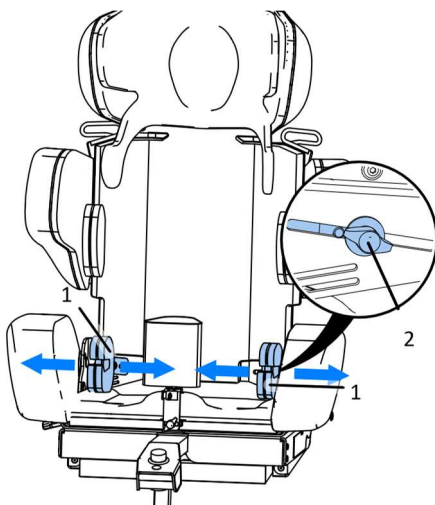

Fig. 19
7.4 Hip supports adjustment Fig. 19